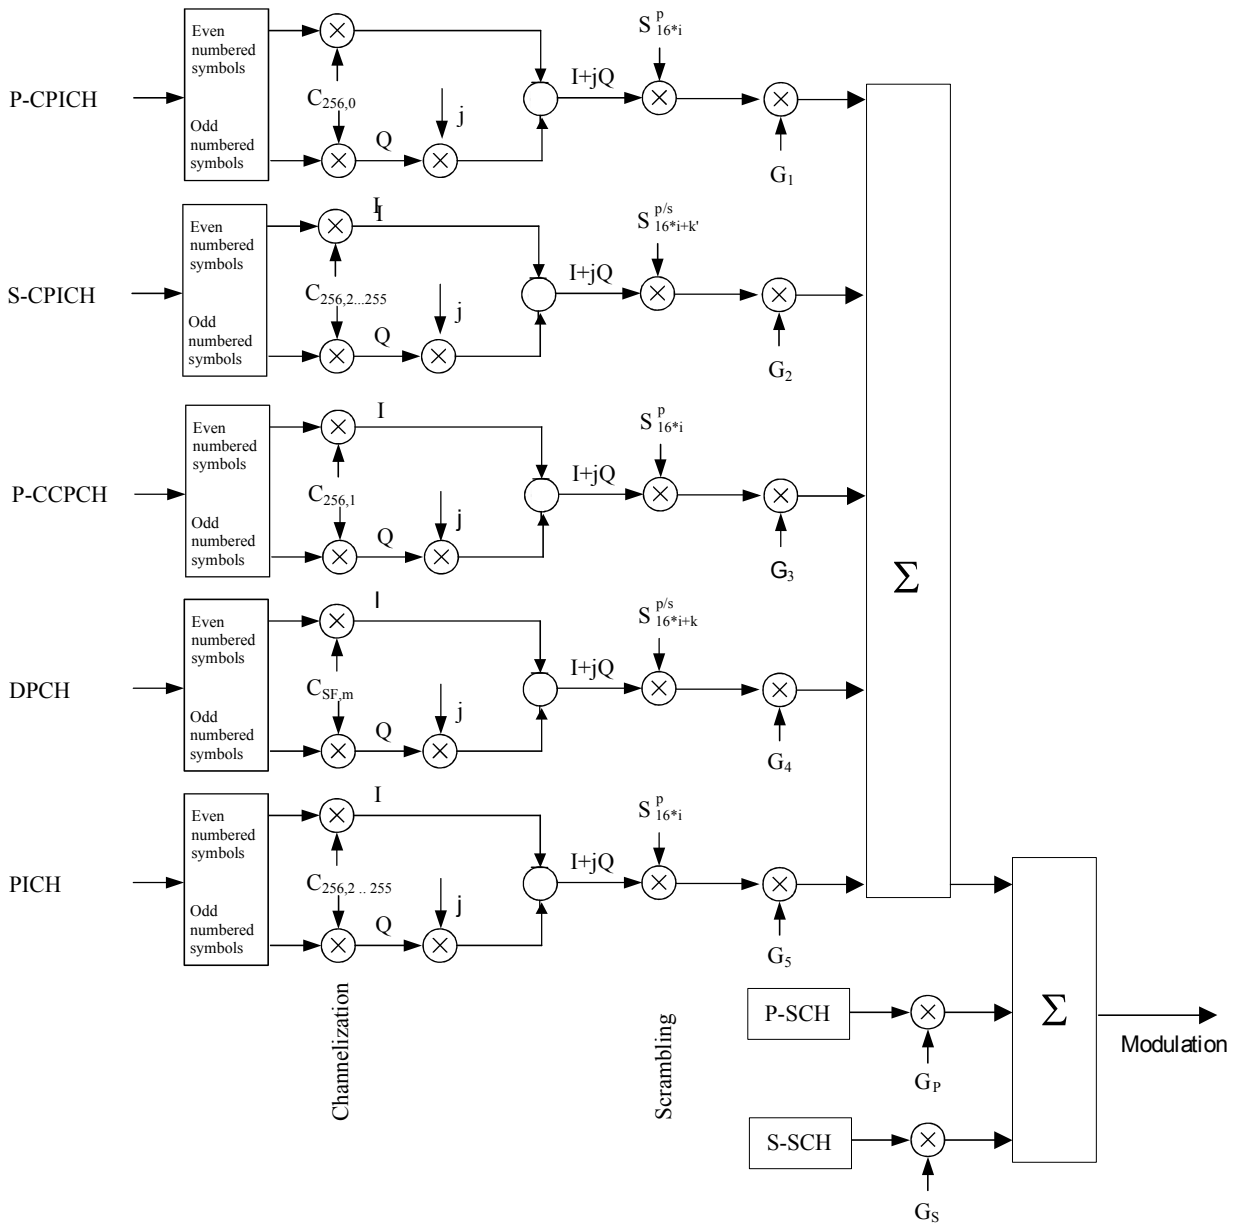
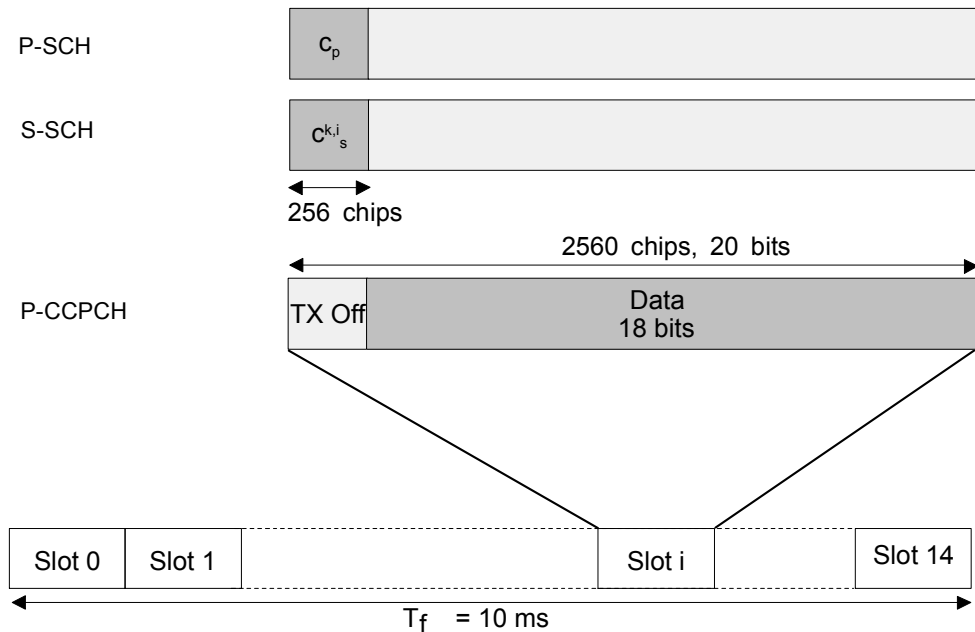

Fig. 4-63 Spreading of the downlink channels
Fig. 4-65 Frame structure for the SCH and P-CCPCH
The CMU uses the scheme defined in TS 25.213 to spread and combine the downlink channels (see Fig. 4-63 below). The real-valued P-CPICH, S-CPICH, P-CCPCH, DPCH and PICH symbols are first mapped to an I and Q branch. The I and Q branches of each channel are spread to the chip rate using the same channelization code $C_{SF,m}$. The channelization codes of the P-CPICH and P-CCPCH are fixed. The spreading factor (SF) for the DPCH is given by its slot format number (see Table 4-20 on p. 4.165) and the selectable *DPCH Channelization Code* m. The complex-valued chip sequences are scrambled with primary or secondary scrambling codes S^p or S^s ; see paragraph on Downlink scrambling codes on
The UE searches for the P-SCH and detects the primary synchronization code using correlation methods. The start of the P-SCH marks the beginning of a slot (see Fig. 4-65 on p. 4.153).
SCH Level	<p>The SCH Level softkey sets the level of the Primary Synchronization Channel (P-SCH) and the Secondary Synchronization Channel (S-SCH). The level is set relative the Output Channel Power or to the P-CPICH Level abs., depending on the selected Level Reference (see p. 4.157). The two levels can be entered in two separate input fields. If it is defined relative to the P-CPICH Level abs., the P-SCH Level is equal to the ratio of the weighting factors G_p/G_1 in Fig. 4-63 (see p. 4.150). The S-SCH Level is equal to the ratio of the weighting factors G_s/G_1 in Fig. 4-63.</p> <p>The P-SCH carries a complex-valued 256-chip code c_p depending on the STTD encoding on the P-CCPCH and is used for slot synchronization between CMU and UE. It is time-multiplexed with the P-CCPCH as shown in Fig. 4-65 below.</p> <p>The S-SCH carries a complex-valued 256-chip code $c_s^{k,i}$ depending on the slot no. i ($i=0, 1, \dots, 14$), the scrambling code group k ($k = 0, 1, \dots, 63$; see background information on Downlink scrambling codes on p. 4.158), and the STTD encoding on the P-CCPCH. It is used for frame synchronization between CMU and UE. It is time-multiplexed with the P-CCPCH as shown in Fig. 4-65 below.</p> <p>Remote control <code>SOURCE:RFGenerator:Schannel:LEVel:PSCH <Level></code> <code>SOURCE:RFGenerator:Schannel:LEVel:SSCH <Level></code></p>
P-CCPCH Level	<p>The P-CCPCH Level softkey sets the level of the Primary Common Control Physical Channel (P-CCPCH). The level is set relative the Output Channel Power or to the P-CPICH Level abs., depending on the selected Level Reference (see p. 4.157). If it is defined relative to the P-CPICH Level abs., the P-CCPCH Level is equal to the ratio of the weighting factors G_2/G_1 in Fig. 4-63 (see p. 4.150).</p> <p>The P-CCPCH carries the BCH transport channel and transmits the System Frame Number (SFN). It is used as the timing reference for all physical channels and is time-multiplexed with the SCHs as shown in Fig. 4-65 below.</p> <p>Remote control <code>SOURCE:RFGenerator:DBChannel:LEVel:PCCPch <Level></code></p>
The *PICH Level* softkey sets the level of the Page Indicator Channel (PICH). The level is set relative the *Output Channel Power* or to the *P-CPICH Level abs.*, depending on the selected *Level Reference* (see p. 4.157). If it is defined relative to the *P-CPICH Level abs.*, the *PICH Level* is equal to the ratio of the weighting factors G_4/G_1 in Fig. 4-63.
The *DPDCH Level* softkey sets the level of the data part (DPDCH) of the Dedicated Physical Channel (DPCH). The level is set relative the *Output Channel Power* or to the *P-CPICH Level abs.*, depending on the selected *Level Reference* (see p. 4.157). The level of the control part can be set to be different from the *DPDCH Level*; see *Power Offset* parameter on p. 4.160. For a 0-dB power offset and if it is defined relative to the *P-CPICH Level abs.*, the *DPDCH Level* is equal to the ratio of the weighting factors G_3/G_1 in Fig. 4-63 (see p. 4.150). The DPCH (including the DPCCH part) can be switched off by means of the *ON/OFF* key.
The 512 primary scrambling codes are further divided into 64 groups, each consisting of 8 codes. The scrambling code group information is transmitted on the S-SCH; see *Fig. 4-65* on p. 4.153.